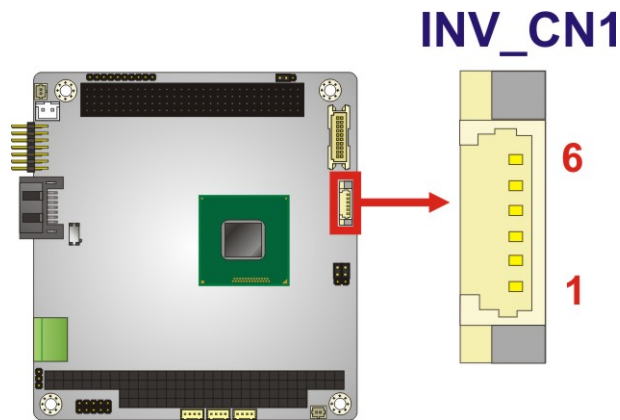

Figure 3-11: Backlight Inverter Connector Location
- CN Location:** See **Figure 3-11**